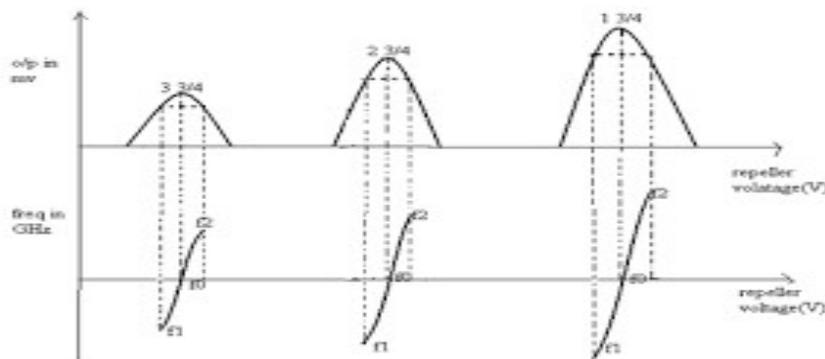

Fig.1- **Modes of a Typical Klystron Tube**
Modes of operation: - In a reflex Klystron repeller voltage plays a key role in deciding the oscillating condition and the mode of operation. If the resonant frequency of the cavity and the beam voltage are kept constant, then the amplitude and frequency of oscillations obtained from the reflex Klystron vary with the repeller voltage. The different oscillating regions correspond to different transit time modes. Power and frequency Klystron is shown in the mode diagrams see Fig.1
- (i) Assemble test bench as shown in Fig 1